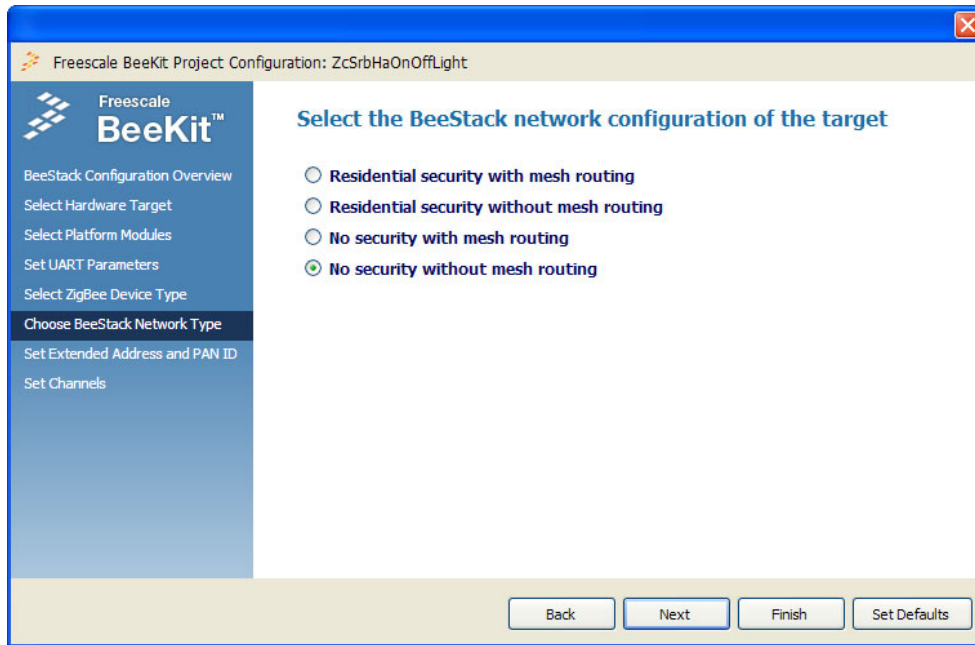

Figure 3-8. BeeStack Network Type Selection Page
8. Click the Next button. The BeeStack Network Type page appears as shown in Figure 3-8.